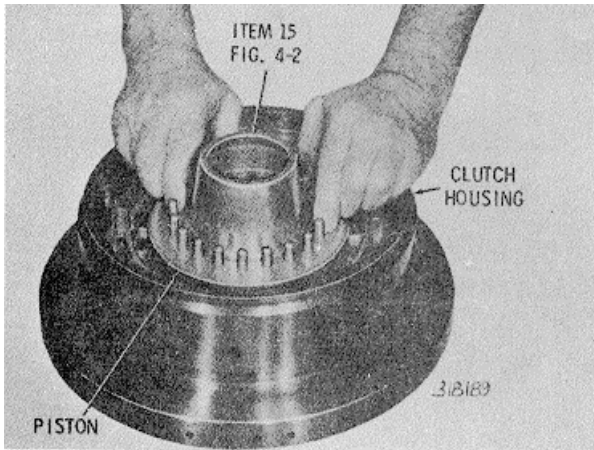

Fig. 6-36 Installing forward clutch piston
(7) Install piston A into forward clutch housing G. Make sure the lips of sealrings B and C are facing the bottom of the piston cavity. Install seal protector 15 (fig. 4-2) onto the clutch housing hub before installing the piston (fig. 6-36).